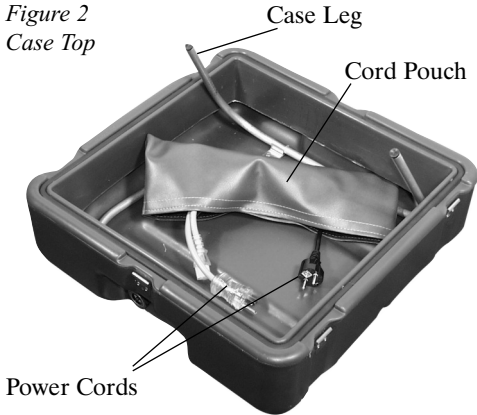

Figure 3
4. With the OFF/AUTO switch of the pressure switch in the OFF position, plug the female end of the selected power cord into the power inlet receptacle on the compressor and the other end into an appropriate power source. At this time the compressor circuitry will detect the line voltage and select appropriate operating conditions. If 230 Volt power is detected, a click will be audible as voltage selector relays switch. Voltage should not hereafter be changed during operation. *Reference figure 3.*
5. From the ADU-10CF air hose package, locate the 3/8" male-male air hose. Connect 3/8" male-male quick connect air hose to the female air output connector on compressor. Connect the female-male extension air hose, if desired. Connect to the ADU-10CF dental unit. *See figures 3 & 4.*